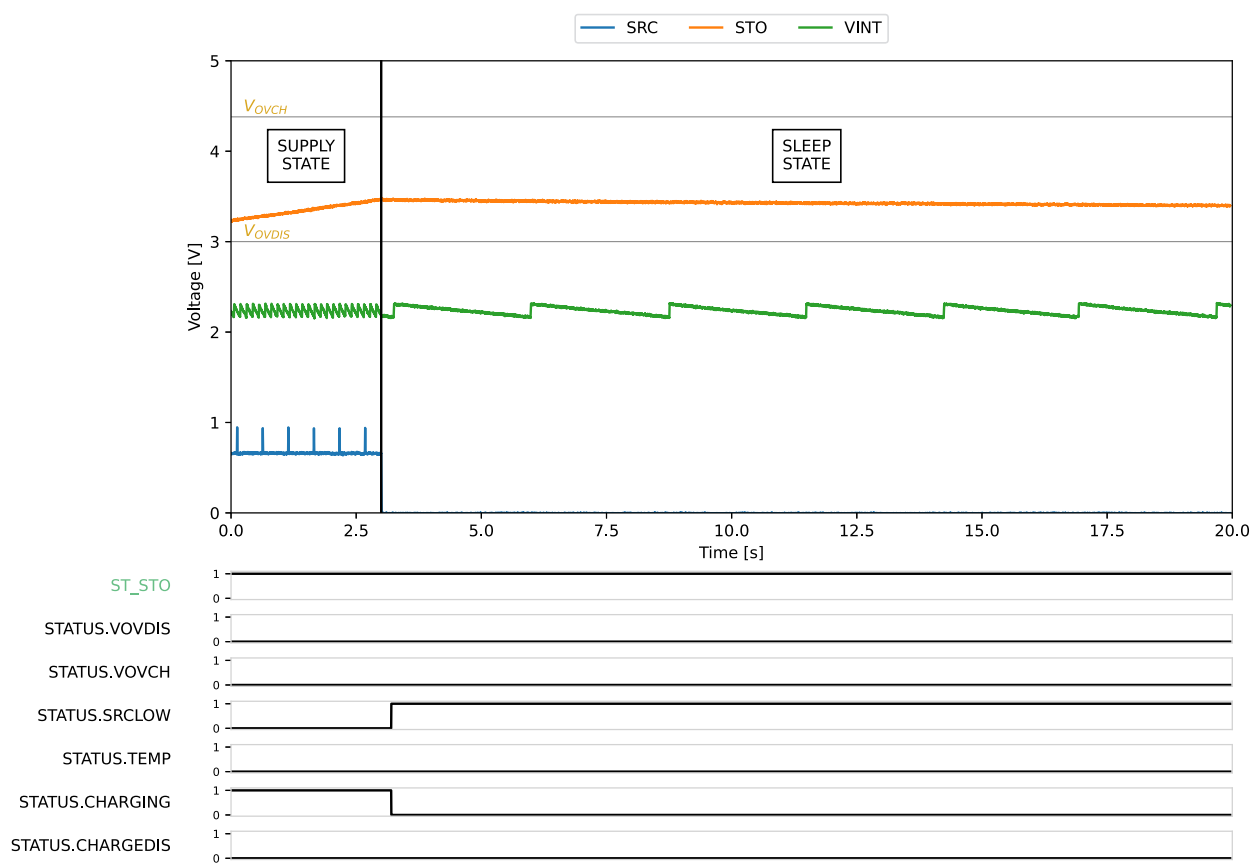
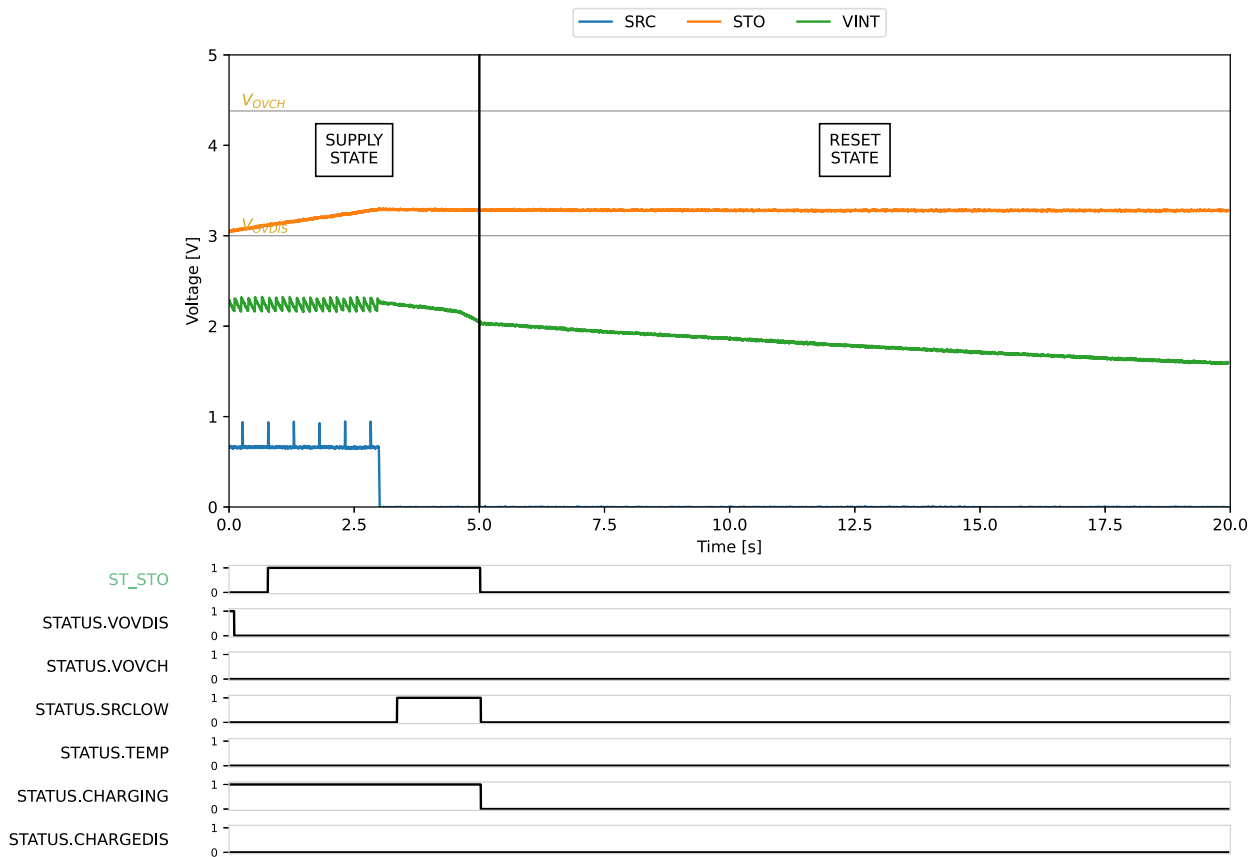

Figure 20: KEEP\_ALIVE HIGH behavior
Figure 21: KEEP\_ALIVE LOW behavior
- KEEP\_ALIVE: is enabled on Figure 20 and disabled on Figure 21.
- **KEEP\_ALIVE** = H (Keep-alive enabled, Figure 20): the AEM1090x switches to **SLEEP STATE**, **VINT** keeps being supplied from the storage element connected to **STO**. The AEM1090x will be able to harvest again as soon as power is restored to the **SRC** pin. On the other hand, a small current is pulled from the storage element ( $I_{QSLEEP}$ , see Table 5).
- **KEEP\_ALIVE** = L (Keep-alive disabled, Figure 21): **VINT** can only be supplied from the energy available on **SRC**, so as soon as the power source is switched off, **VINT** stops being supplied. Once  $V_{INT}$  falls below  $V_{INT,RESET}$ , the AEM1090x switches to **RESET STATE**, so that no current is pulled from the storage element. The stored energy is thus preserved. On the other hand, when power is restored to the **SRC** pin, the AEM1090x must perform a cold start to resume harvesting.